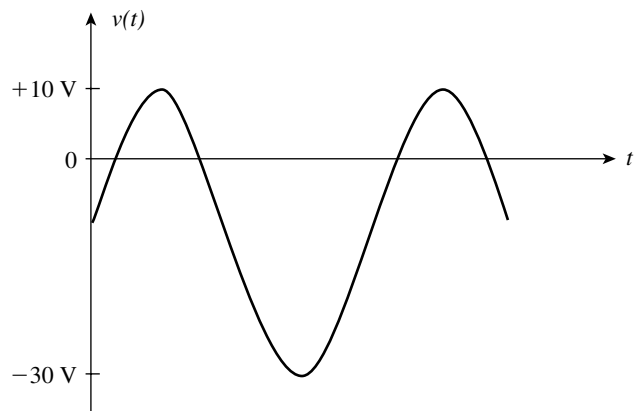

FIGURE 25-48
3. Repeat Problem 1 if the waveform of Figure 25-48 is applied to a 2.5-k Ω resistor.